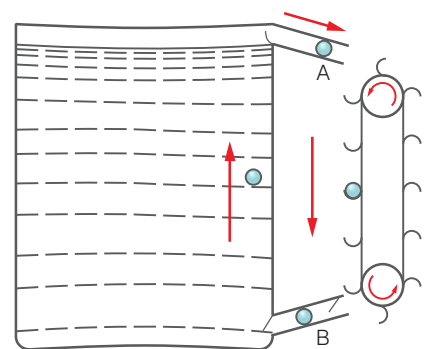

Figure 1.50
- b) Figure 1.50 shows one suggestion put forward as a perpetual motion machine. The ball in position A would fall off the top of the water doing work on the pulley belt. At B it would move sideways doing no work and enter the bottom of the tank by a valve system which would prevent water from escaping. It would then float to the top ready to start again. Explain why this system will not behave as a perpetual motion machine.